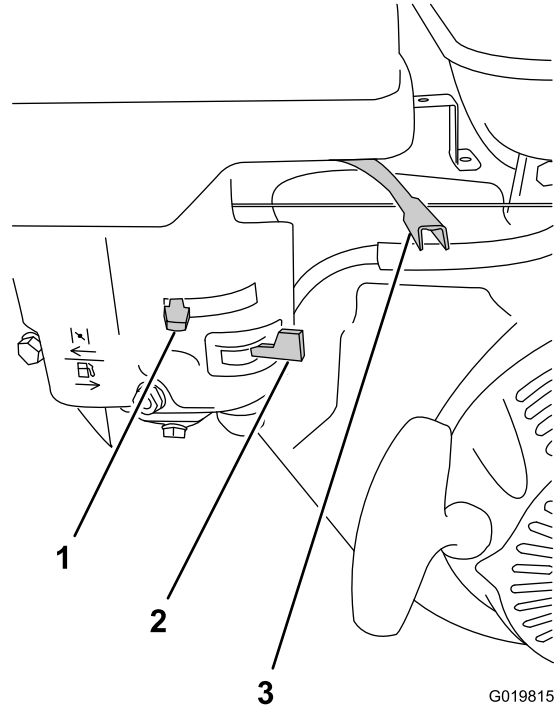

Figure 35
2. Move the fuel valve to the OPEN position, all the way to the right (Figure 35).
3. Move the choke lever to the ON position (Figure 35).
- Move the throttle lever to the MIN position (Figure 35).